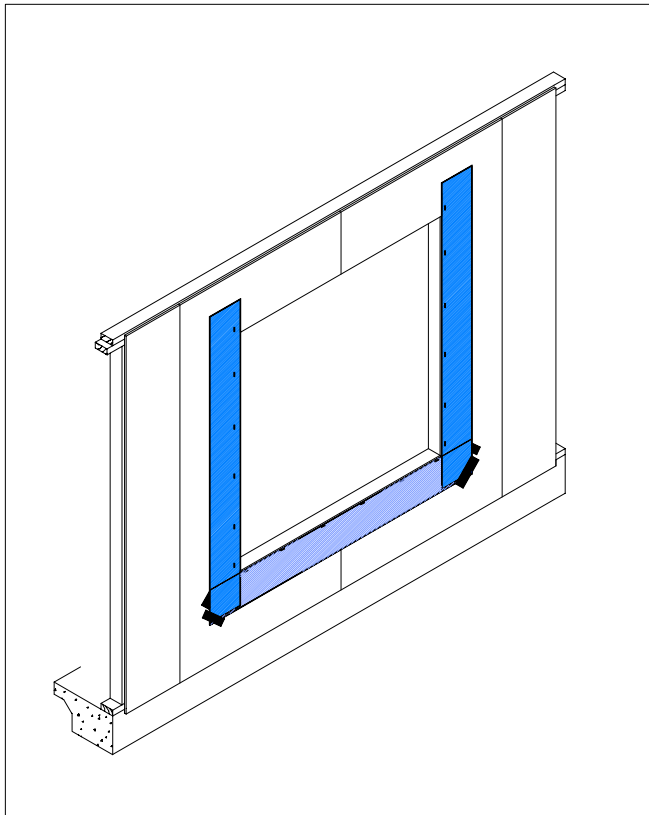

Figure B.6.1
6. Starting at each jamb, install the flashing cut for the jambs against the rough framed opening and fasten them into place overlapping the sill flashing. Make sure that the nailing fin of the window can cover the fasteners on the inside of the flashing, next to the opening, when it is installed. Secure the outside edges of the jamb flashings with fasteners as well. Do not fasten the bottom 9" of the jamb flashings if the weather resistant barrier has not yet been installed, so that the weather resistant barrier can be tucked underneath the jamb and sill flashing in weatherboard fashion. Tape may be used to secure these flaps from the weather to prevent damage. **See Figure B.6.1**